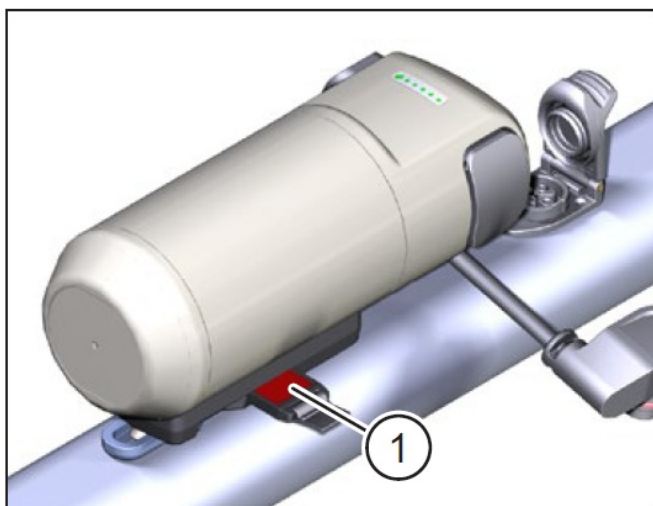

Fig. 5: FIDLOCK® system unlocked
- The FIDLOCK® system is still unlocked after inserting the Range Extender. This condition is indicated by the red field (Pos. 1 in Fig. 5) on the locking tab.